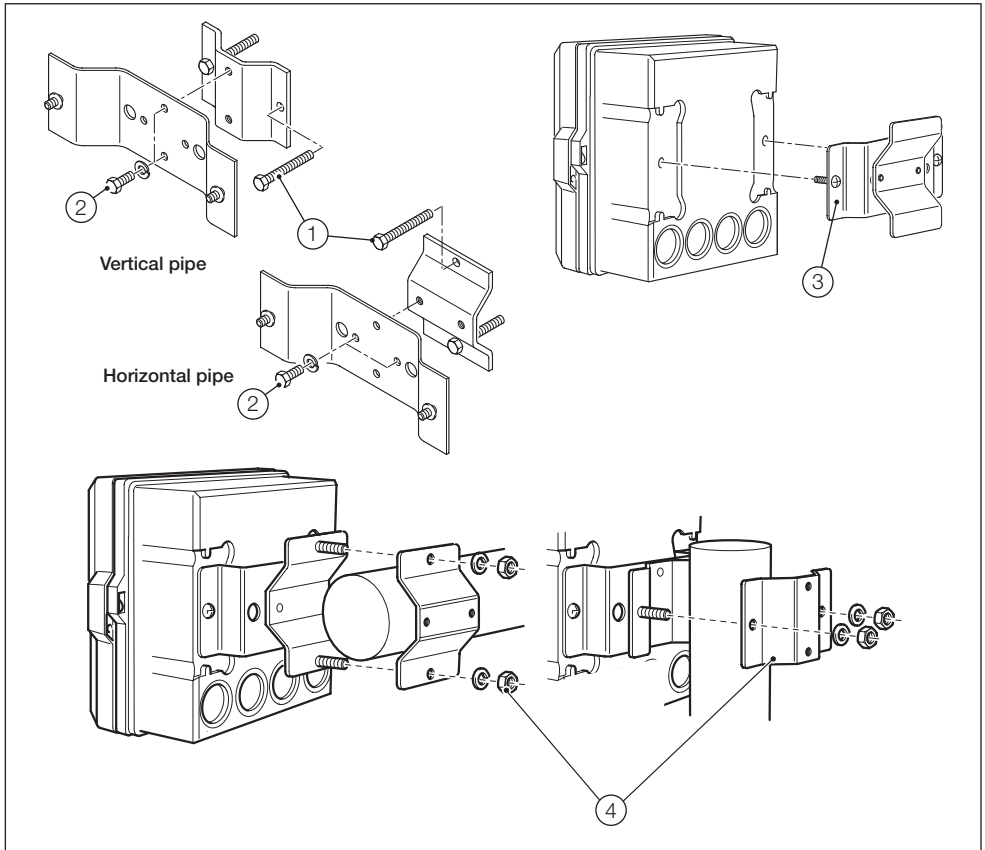

Fig. 2.6 Installing the Instrument – Pipe-Mounting (Optional)
- ① Position the left- and right-hand mounting brackets into the recesses on the rear of the instrument as shown and secure with the bracket securing screws. Ensure the plastic washers remain in the positions fitted.
- ② Mark fixing centers and drill suitable holes in the wall.
- ③ Secure the instrument to the wall using 2 screws in each mounting bracket.
2.2.3 Pipe-Mounting (Optional) – Fig. 2.6
Referring to Fig. 2.6, secure the instrument to a pipe as follows: